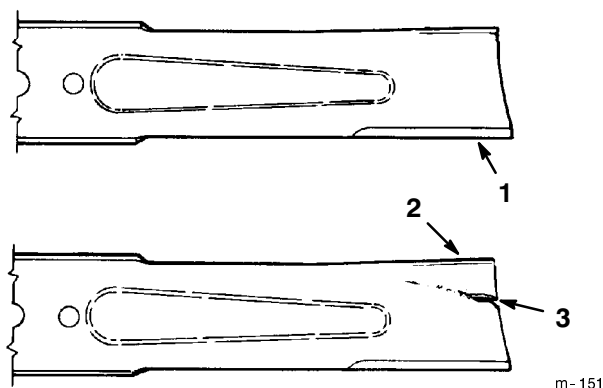

Figure 30
2. Inspect the cutting edges (Fig. 30). If the edges are not sharp or have nicks, remove the blade(s) and sharpen them; refer to Sharpening the Blade(s), page 36.
3. Inspect the blade(s), especially the curved area (Fig. 30). If you notice any damage, wear, or a slot forming in this area (Fig. 30), immediately install a new blade.